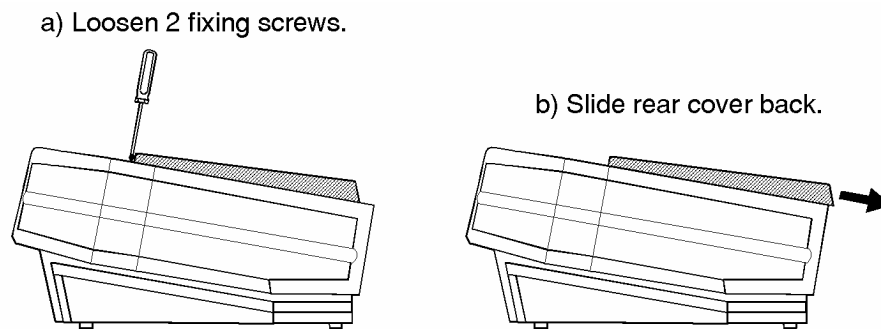

Figure 1. Remove the Top Rear Cover
- 5) Remove the rear top cover of the projector (see Figure 1).